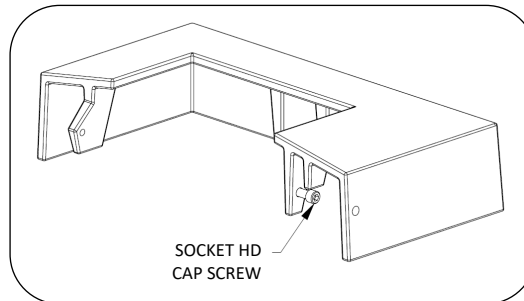
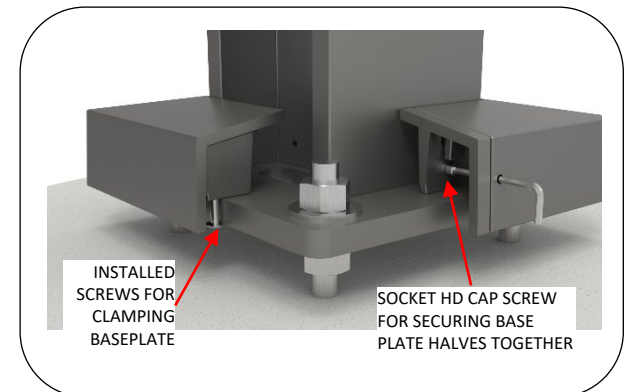

Fig. 5 – Cover plate preparation
Fig. 6 – Cover plate assembly
5. Attach cover plate. Back socket head cap screw partially out so the end of the screw is just below flush with the casting. Align holes in cover plate halves. Tighten socket head cap screw so it engages both halves. Two screws preinstalled on each cover plate half act as a clamp for the base plate. This prevents the base plate from being lifted up once installed. See Fig. 5 and Fig. 6.